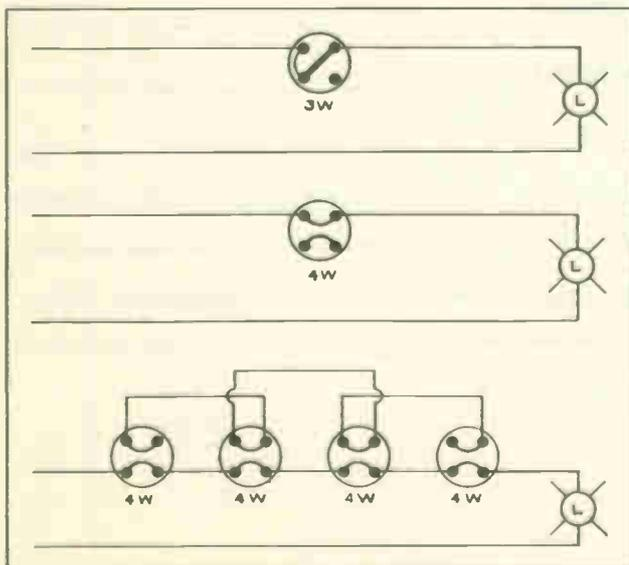

Fig. 7
2. Substitutions - a double-pole switch can be used as a single-pole switch; a three-way switch can be used as a single-pole switch, Fig. 7; a four-way switch can be used as a single-pole switch, Fig. 7; a four-way switch can be used as a three-way switch, Fig. 7; a four-way switch can be used as a two-circuit electrolier switch; a three-way switch can be used as a two-circuit electrolier switch.